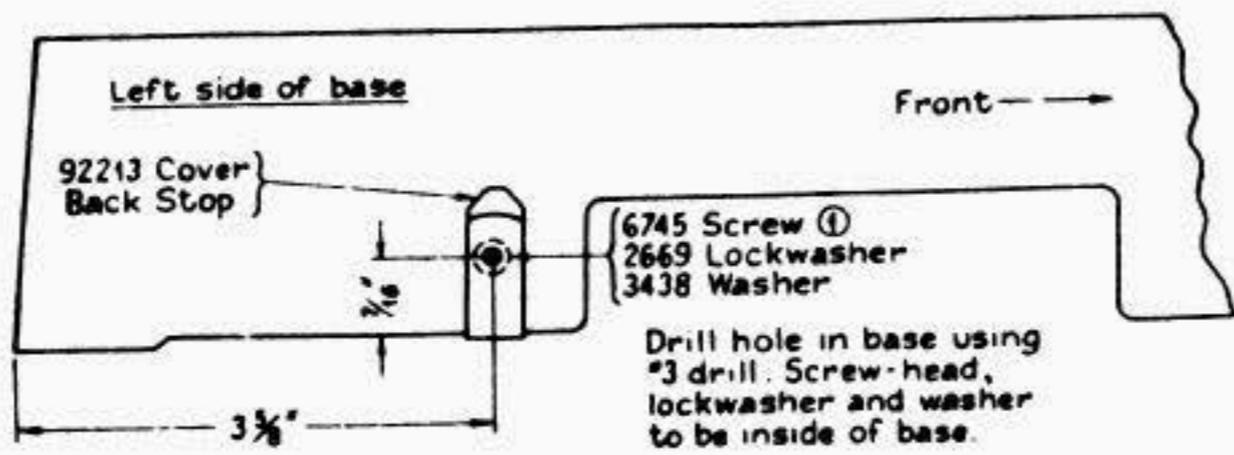

FIG. 1
2.01 To install the cover back stop, remove the 72023 cover plate, drill the base and install the parts as shown in Figure 1.